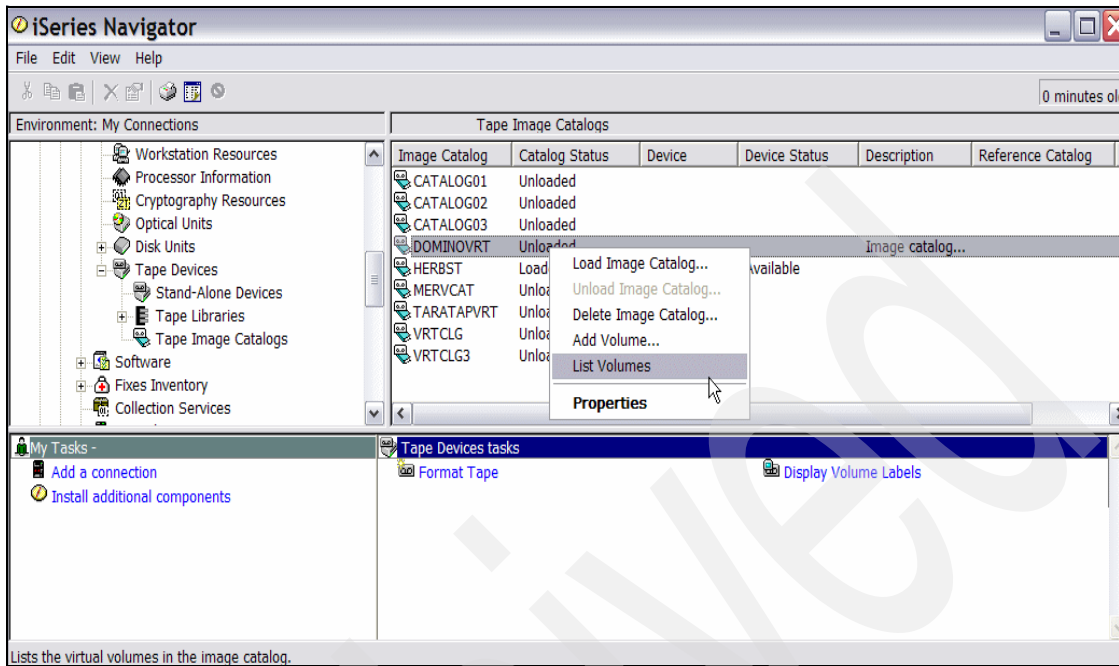

Figure 5-6 Domino with BRMS virtual tape, list volumes in image catalog
7. After adding other volumes, list the volumes to verify that everything is in order by right-clicking the image catalog and selecting **List volumes**, as shown in Figure 5-6 on page 195.